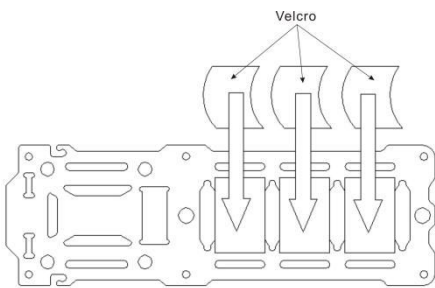
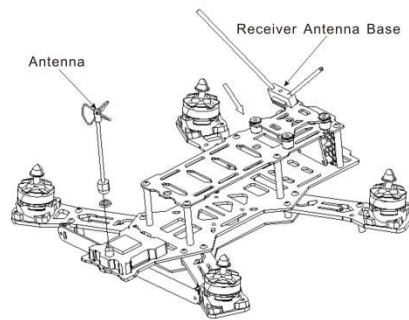
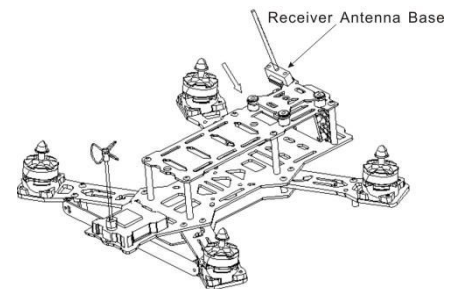
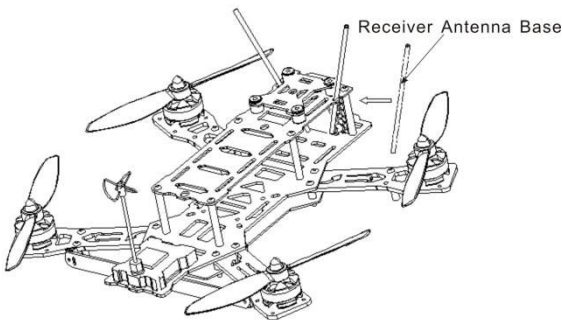

Fig 1
Fig 2
Fig 3
Fig 4
- (1) Place velcro to frame (about center of gravity of the frame, depend on battery size, battery can be placed inside the copter frame or above the copter frame) See Fig 1.
- (2) Place receiver behind the camera on the middle board, stay away from the video transmission antenna.
- (3) Place receiver antenna into receiver antenna base, and install receiver antenna base to the frame. (There are 2 ways to install the receiver antenna, customer can choose the best way depend on receiver size) See Fig2, Fig3 and Fig4.
- (4) Please install video transmitter antenna to video transmitter. See Fig 2.
- (5) Please install propeller to motors (Beware of the CW and CCW propellers) M1 and M4 are CCW propellers, M2 and M3 are CW propellers.
- (6) Please remove camera cover and turn on monitor and/or power goggle.
- (7) Connect battery to power copter, and switch the video transmitter power to ON and check video feed from monitor and/or goggle.
- (8) Please adjust camera lens focus to best image quality.